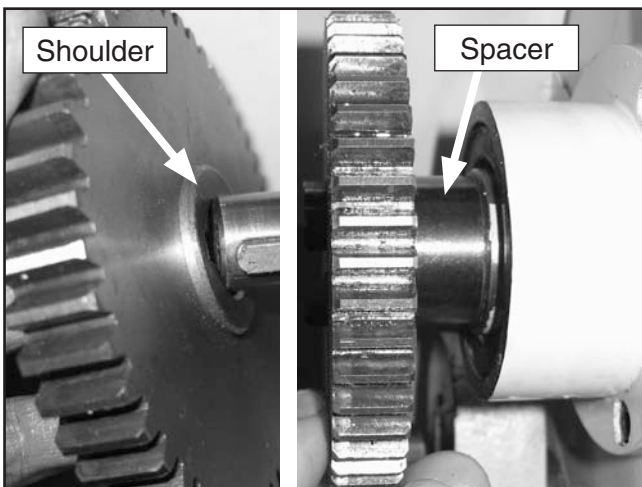

Figure 66. Upper spindle gear and spacer positioning.
12. Slide the spacer onto the spindle, then the 48-toothed gear with the shoulder facing the spacer (**Figure 66**). Install the spacer washer, and secure with the cap screw.